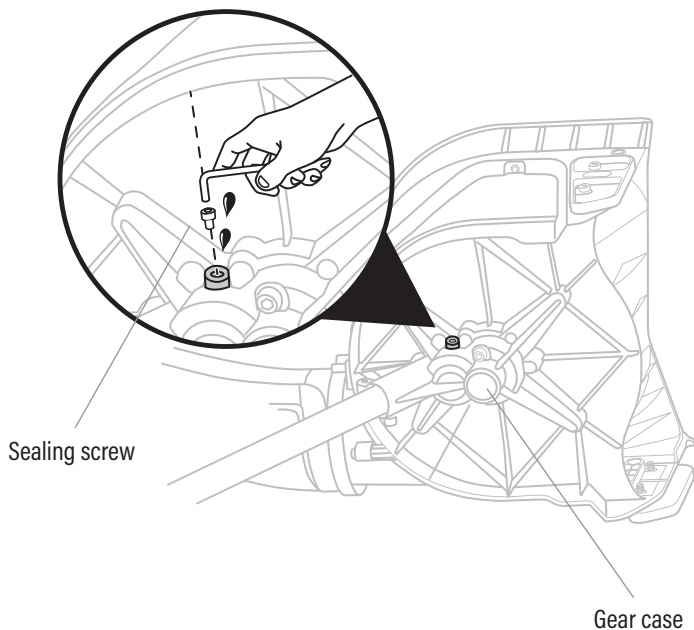

Fig. 13
1. Position the snow shovel attachment so that the sealing screw is facing upwards. (Fig. 13)